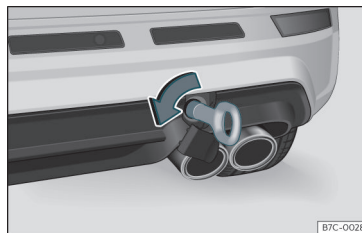

Fig. 42 On the right side of the rear bumper: towline anchorage in position.
- Screw the towing eye in the housing by turning it to the maximum **anticlockwise** >>> **Fig. 42** >>> ❶. Use a suitable object that can completely and securely tighten the towing eye in its housing.